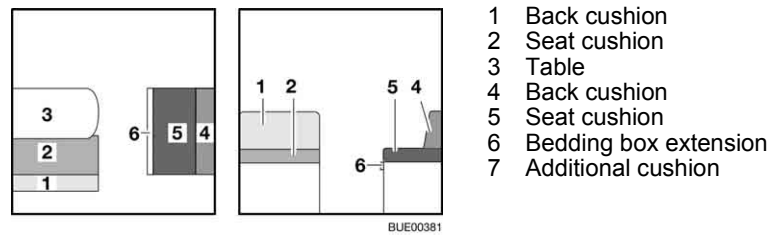

Fig. 120 Prior to conversion
- Convert the table (Fig. 120,3) to a bed foundation (see section 6.11).
- Lay the back cushion (Fig. 120,1) aside.